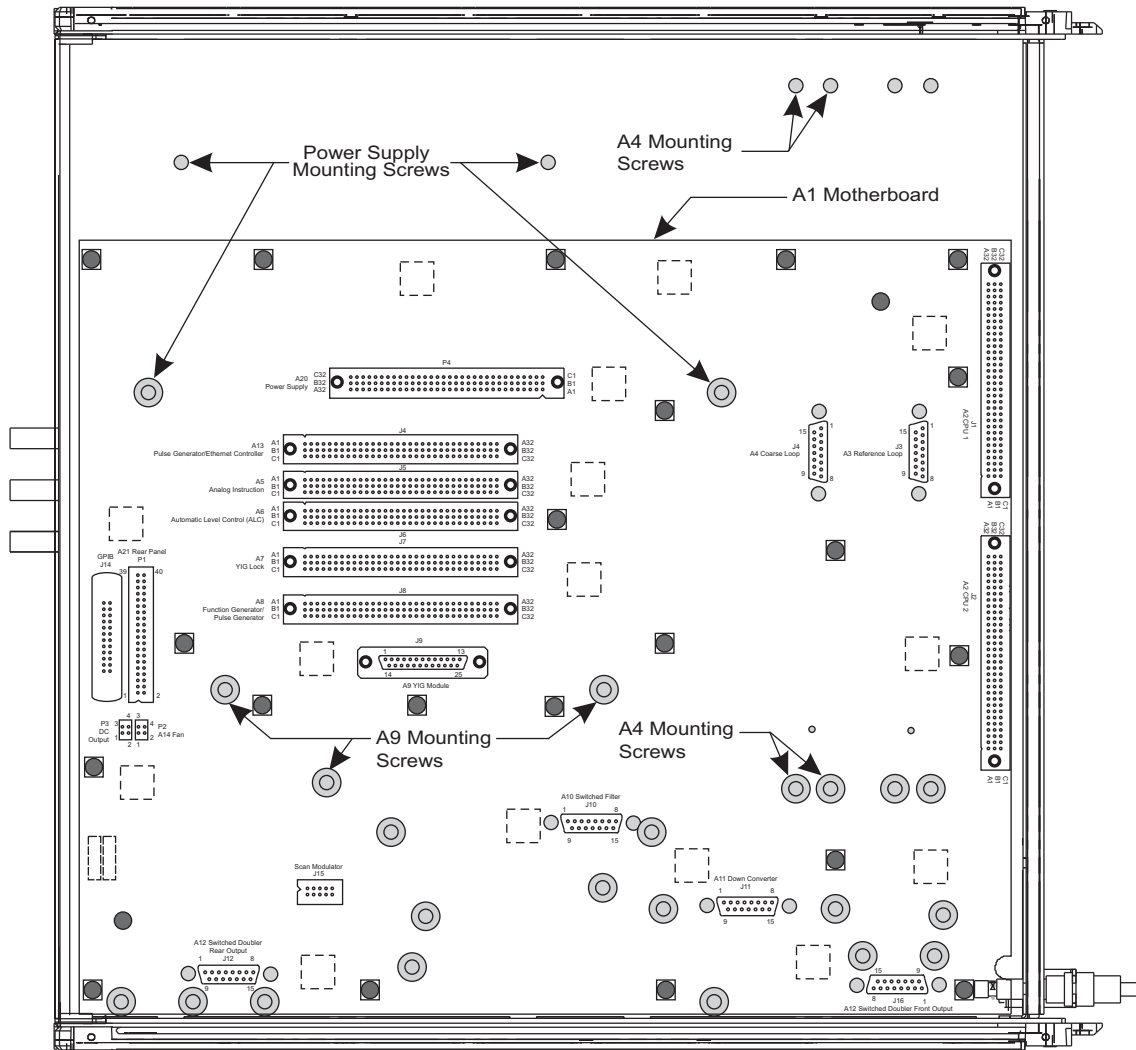

Figure 7-8. Location of Retaining Screws for A4 PCB Assembly and A9 YIG Assembly
2. Turn the chassis upside down and locate the four retaining screws for the A4 board assembly. Refer to Figure 7-8.
2. Turn the chassis upside down and locate the three retaining screws for the A9 YIG assembly. Refer to Figure 7-8 on page 7-16.